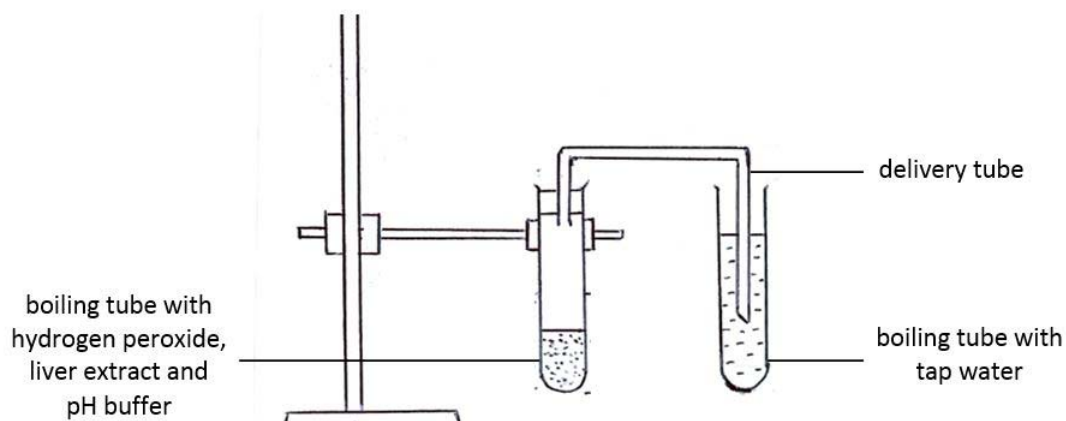

Fig. 1.2
- (b) Some students studied the effect of varying pH on the rate of hydrogen peroxide decomposition by liver catalase using a different experiment setup as shown in Fig. 1.2.